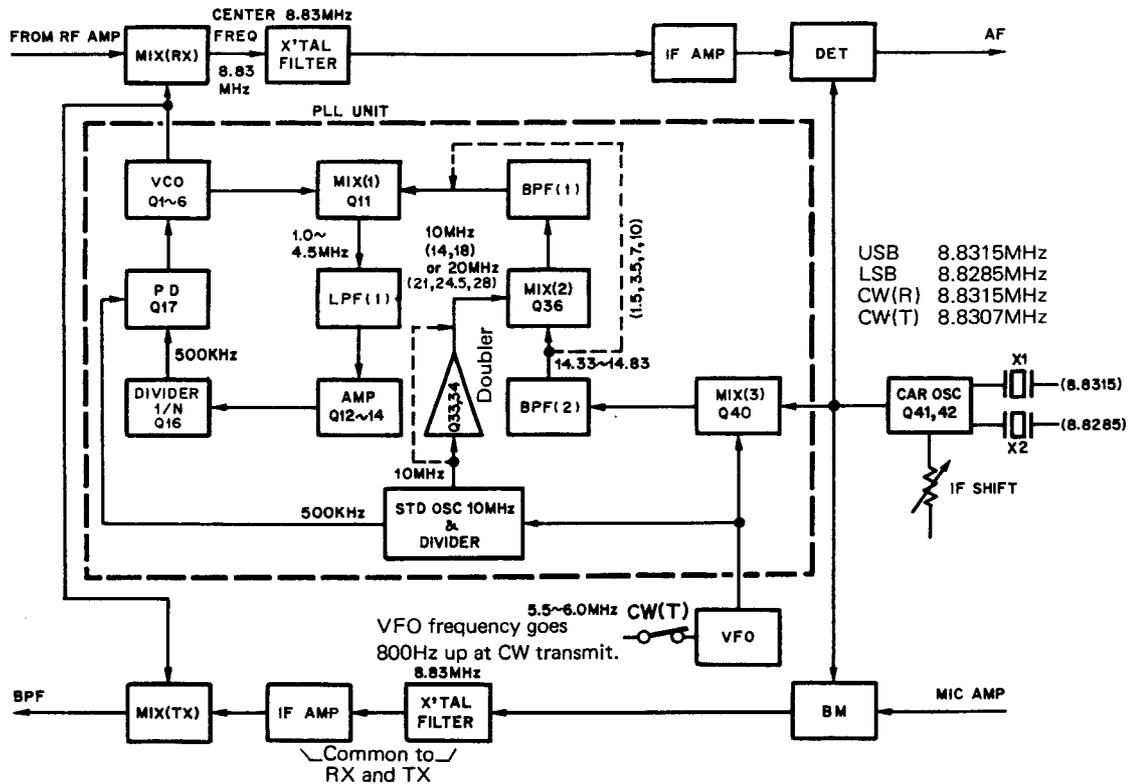
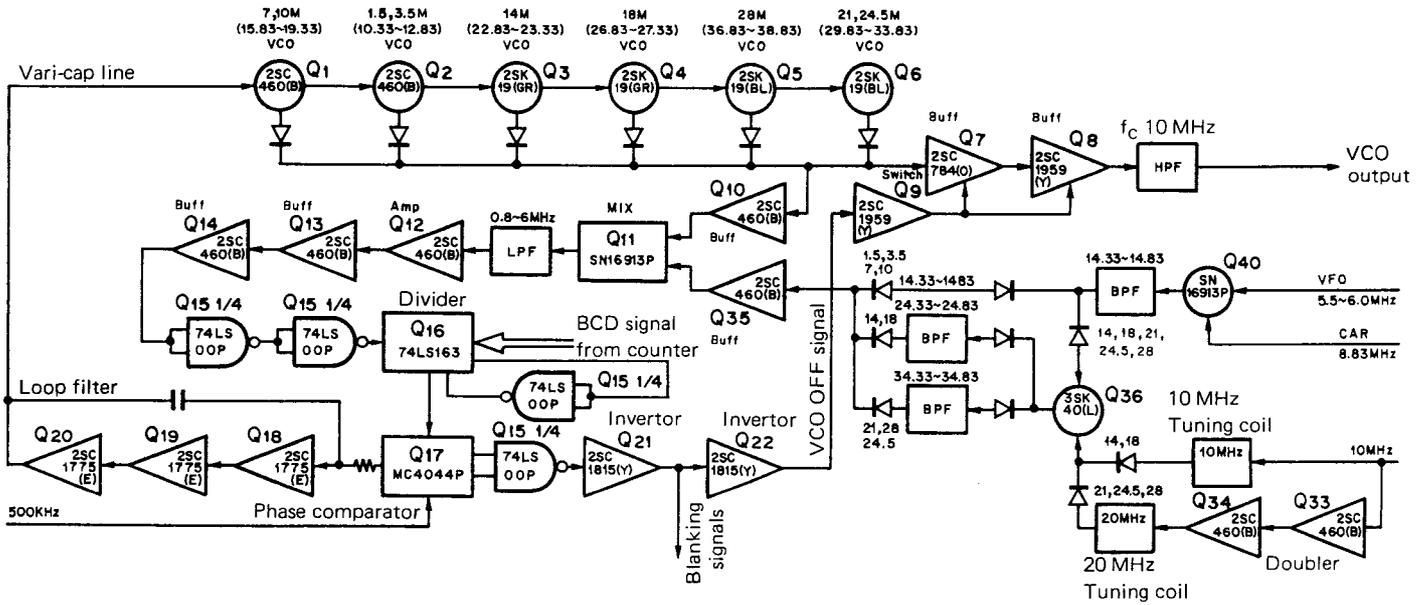

Fig. 1 TS-530 Frequency configuration
Fig. 2 TS-530 PLL circuit configuration
Frequency organization of the PLL circuit is shown in Fig. 1, the circuit diagram in Fig. 2, and frequency organization in other circuits is summarized in Table 4. Please refer to Fig. 1 when reading the following description of PLL circuit operation. MIX (3), a double balanced mixer, mixes the CAR output with the VFO output. MIX (2), which operates for the 18MHz band and above, mixes either 10 MHz, in the 14 and 18 MHz bands, or 20 MHz, in the 21, 24.5 and 28 MHz bands, with the output of MIX (3) to generate the appropriate frequency needed for each band, as shown in Table 4.
The CAR oscillator consists of a crystal controlled oscillator which uses two crystals : one for LSB and the other for USB and CW . Frequencies generated are shown in **Fig. 1**. The oscillating frequency can be varied by the IF SHIFT control during reception.